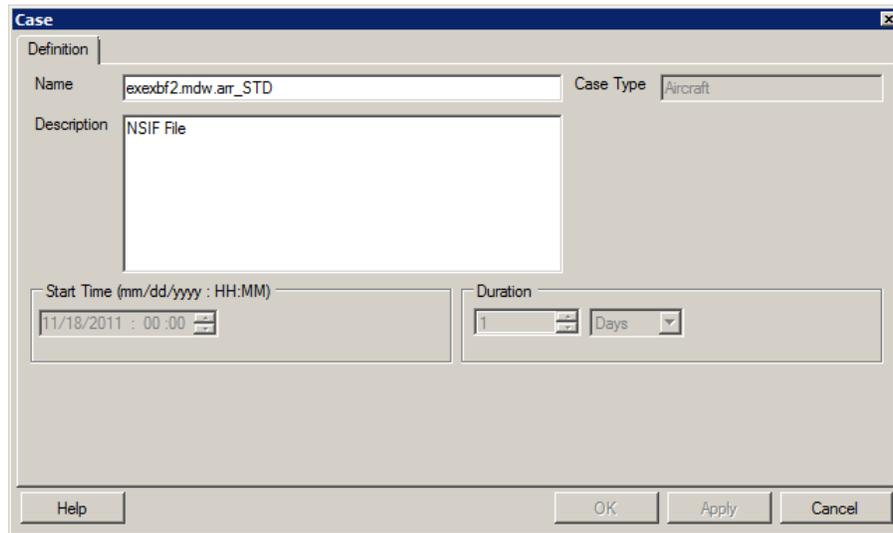

Figure 5-20 Case Dialog Box
4. A *Case* dialog box will appear (Figure 5-20).